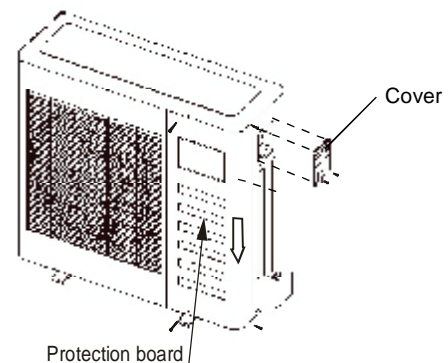

Fig.10-1
- Disassemble the bolts from the cover. (If there isn't a cover on the outdoor unit, disassemble the bolts from the maintenance board, and pull it in the direction of the arrow to remove the protection board.) (Refer to Fig.10-1)
(Refer to Fig. 10-1~ Fig. 10-8)